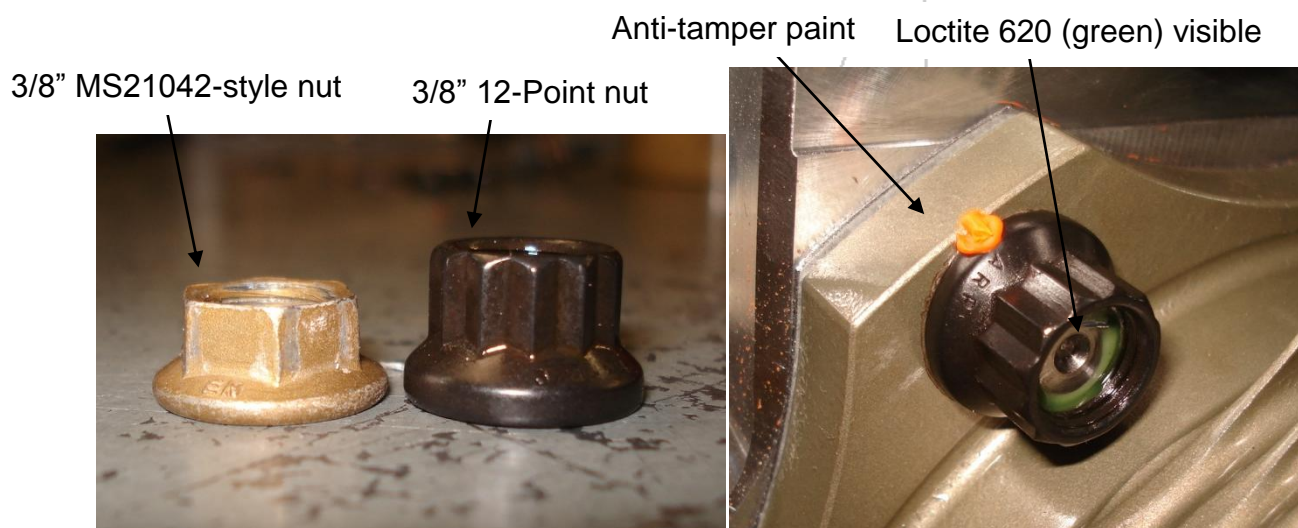
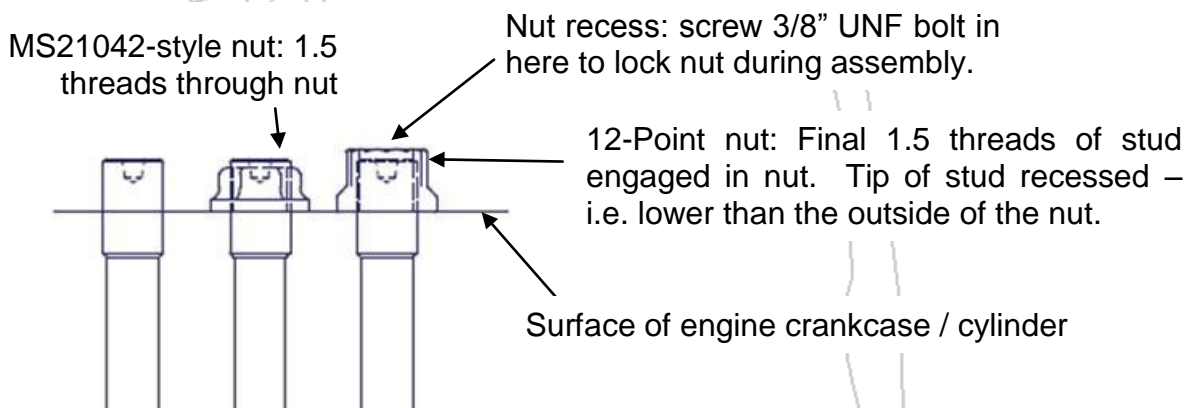

Figure 2 – 12-Point Nuts
Figure 3 – Through-Bolt Thread Illustration With Original Through-Bolts & Studs
- Testing has shown that 12-point nuts (Figure 2) can carry a slightly higher load than the original MS21042 type nuts. As they are longer they also spread the tension load over a higher number of threads on the bolt. This reduces the load concentrated on any given thread and improves the ultimate strength and fatigue life of the assembly.
- If the 12-point nuts are used on the original through-bolts then they will overhang the studs as shown in Figure 2 (right) due to their extra length. Normal aircraft practice is to ensure that a minimum of around 1.5 threads project through the nut, however in this case that is not necessary. Figure 3 shows an illustration of 3 through-bolts fitted to an engine. It can be seen that the thread projects the required amount from the old MS21042-style nut but is recessed inside the 12-point nut. However, due to its extra length the 12-point nut is actually engaging with at least 1.5 – 2 threads more and produces a stronger connection. Also, during assembly with “short” through-bolts it is necessary to put one nut in position and then lock it there by screwing a 3/8” UNF bolt into the recess so that the nut on the other end of the stud can be tightened (with the MS21042 style nuts the same thing was achieved by screwing a second nut onto the protruding thread as a lock nut).
- The base of the 12-point nuts must still be lightly chamfered when used on older cylinder barrels to clear the radius at the base of the cylinder. Newer cylinders, like that shown in Figure 2 (right) are a different design and may not need chamfered nuts – but overhaulers must confirm this before final assembly.
- Mark the completed nuts with anti-tamper paint as shown in Figure 2 (right).